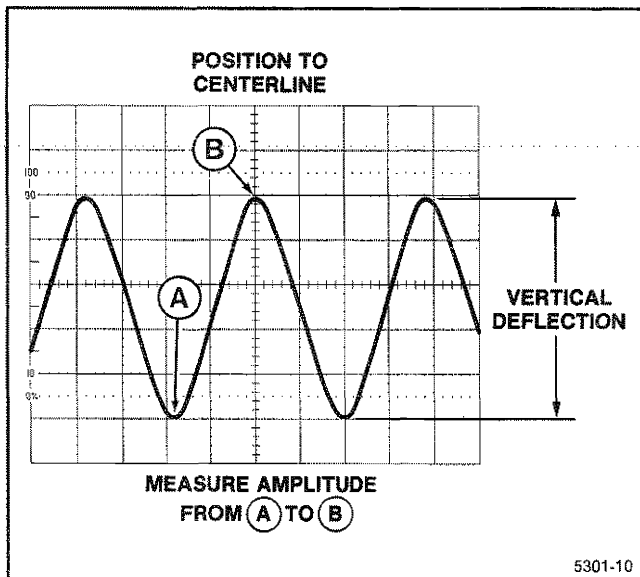

Figure 6-1. Peak-to-peak waveform voltage.
6. Vertically position the displayed waveform so that the negative peak of the waveform coincides with one of the horizontal graticule lines (see Figure 6-1, Point A).
7. Horizontally position the display so that one of the positive peaks coincides with the center vertical graticule line (see Figure 6-1, Point B).
8. Measure the vertical deflection from peak to peak (see Figure 6-1, Point A to Point B).
EXAMPLE: The measured peak-to-peak vertical deflection is 5 divisions (see Figure 6-1) with a VOLTS/DIV switch setting of 0.5 V, using a 10X probe.